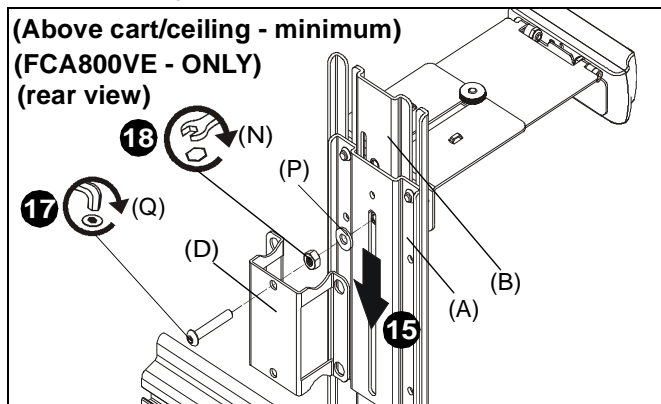

Figure 32
17. (For **minimum extension - FCA800VE**) Use 1/4-20 x 1 1/2" button head cap screw (Q) and 1/4-20 hex nut (N) and large washer (P) to secure extender box holder (D) and upright bracket (A) to main bracket (B). (See Figure 32)
18. (For **minimum extension - FCA800VE**) Tighten 1/4-20 hex nut (N) to fully secure upright bracket (A) to main bracket (B). (See Figure 32)